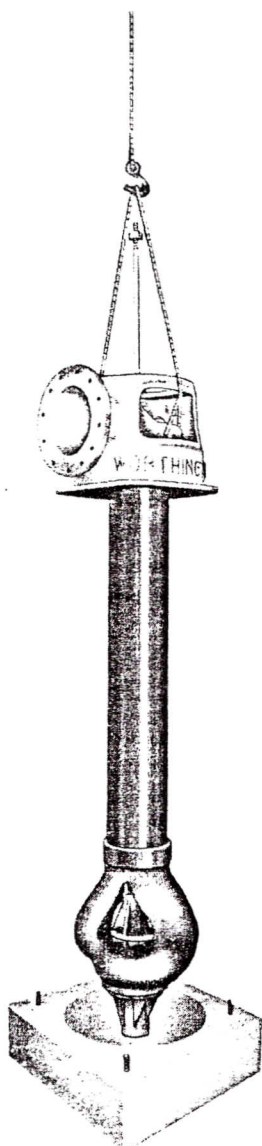

Figure 3-1. Short Coupled Pump Installation
- e. Lift pump until lower end is free of ground or floor (figure 3-1).